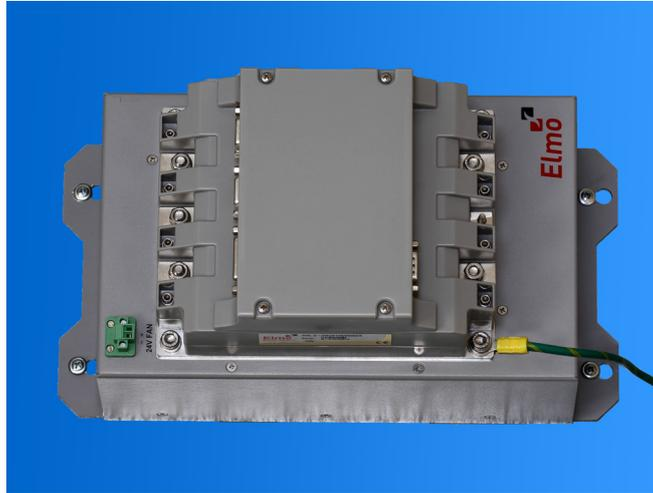

Figure 8: Installed securing screws
6. The mounted Drum and Heat Sink should appear as shown in Figure 8.